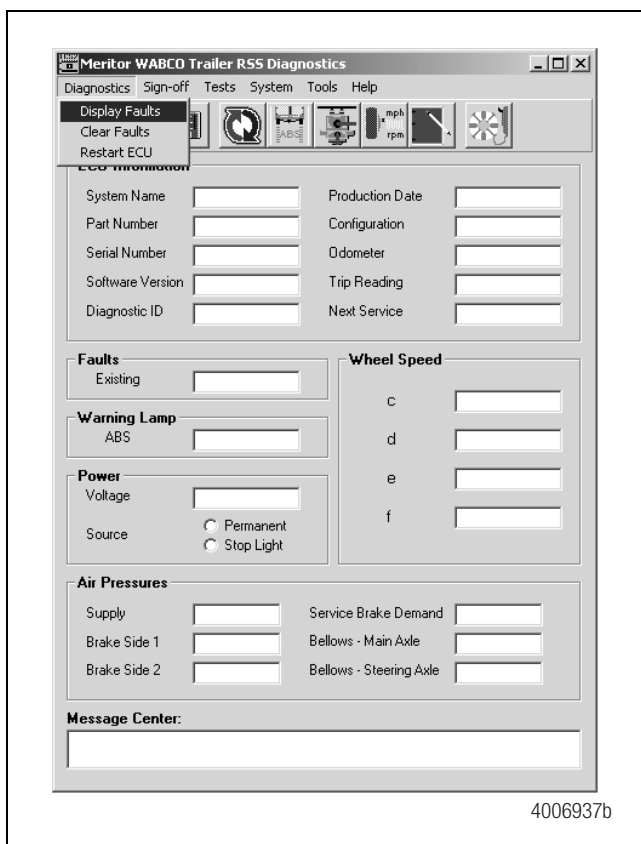

Figure 74
2. From the main screen of the Meritor WABCO trailer EBS diagnostics software, select **Diagnostics** from the top menu bar. Figure 74.